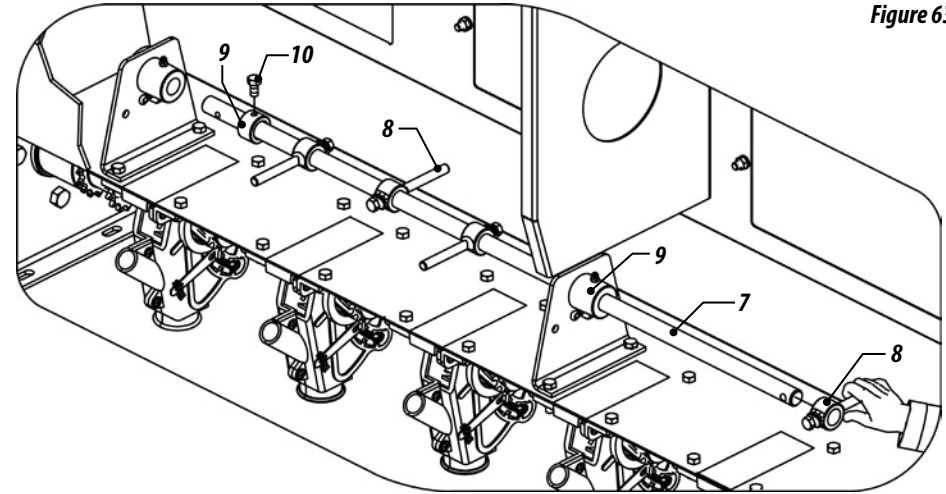

Figure 63
4- Then, press the shaft (7) among the mixers (8), bushing (9), fixing with screw (10), Figure 63;